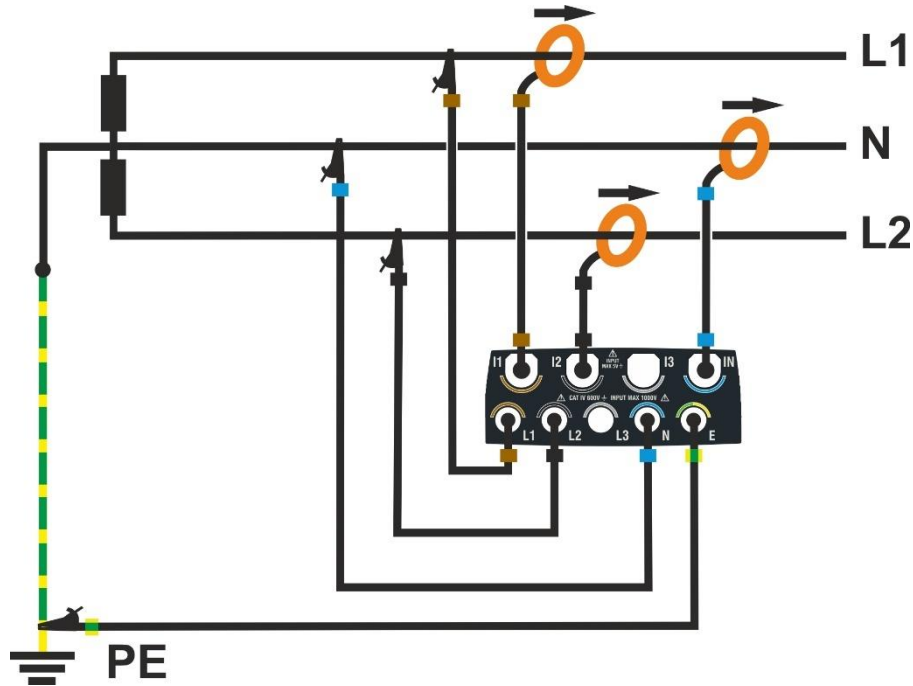

Fig. 70: Connecting the instrument to a Split-Phase 3 Wires 1P PC system
2. Connect the voltage cables to the L1, L2, N and PE conductors as shown in Fig. 70